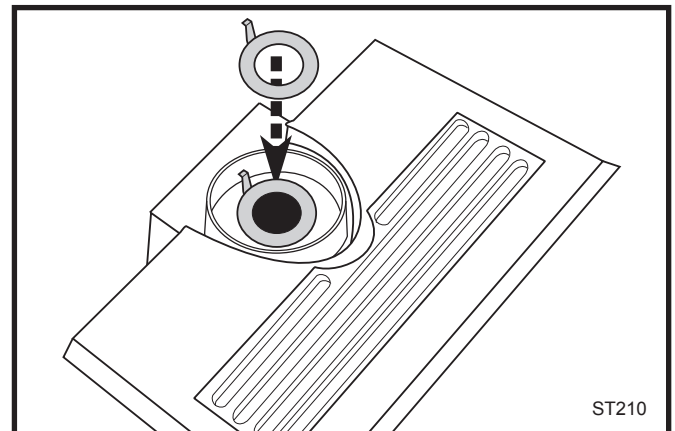

Fig. 16 Install the restrictor plate only if required for the venting configuration. Refer to Page 9.
1. **Install the Restrictor Plate.** Consult the "Vertical Terminations" on Page 9 to determine whether the restrictor plate is needed. If so, put the restrictor plate in place within the inner flue collar as shown in Figure 16. **NOTE:** The restrictor plate supplied with the vertical termination should be discarded. Install restrictor plate supplied with the stove directly at stove outlet.
- 1. Install the Restrictor Plate.** Consult the "Vertical Terminations" on Page 9 to determine whether the restrictor plate is needed. If so, put the restrictor plate in place within the inner flue collar as shown in Figure 16.